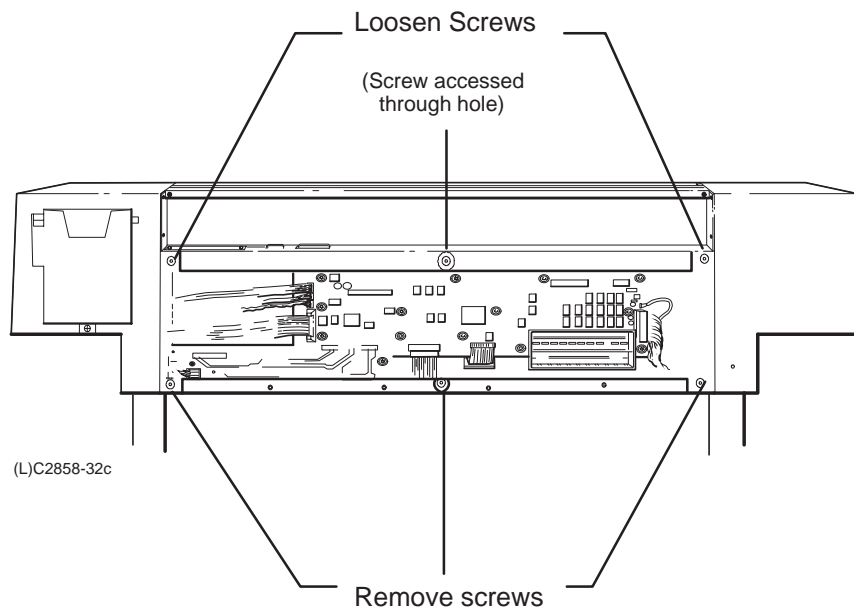

Figure 6-6.
2. Disconnect all the cables from the PCAs shown in Figure 6-6.
3. Using a Torx T-15 screwdriver, remove the bottom three, and loosen the top three, electronics enclosure assembly screws shown in Figure 6-6.